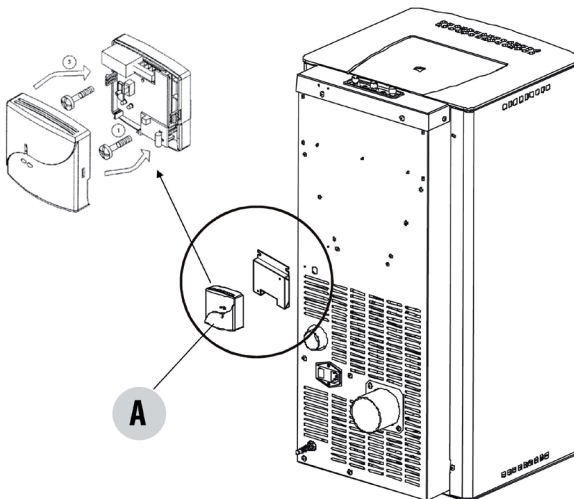

FIGURE 1
- Open the receiver and fasten the rear part through the holes on the support with the screws (figure 1).